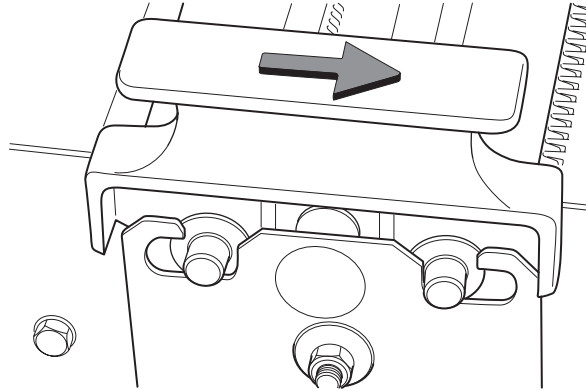

Fig. 4
- Place the upper racks carefully back on the corresponding lower racks. Notice the arrow that indicates the film-transport direction (fig. 4).